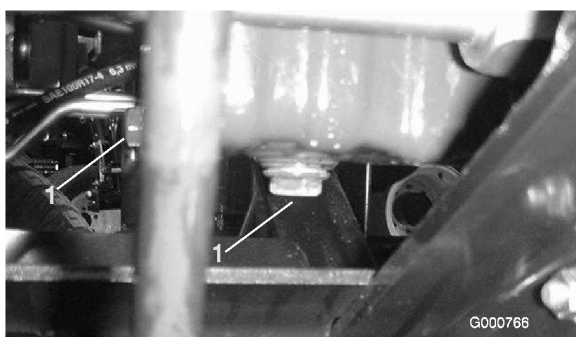

Figure 42
1. Remove drain plug (Figure 42) and let oil flow into drain pan. When oil stops, install drain plug.